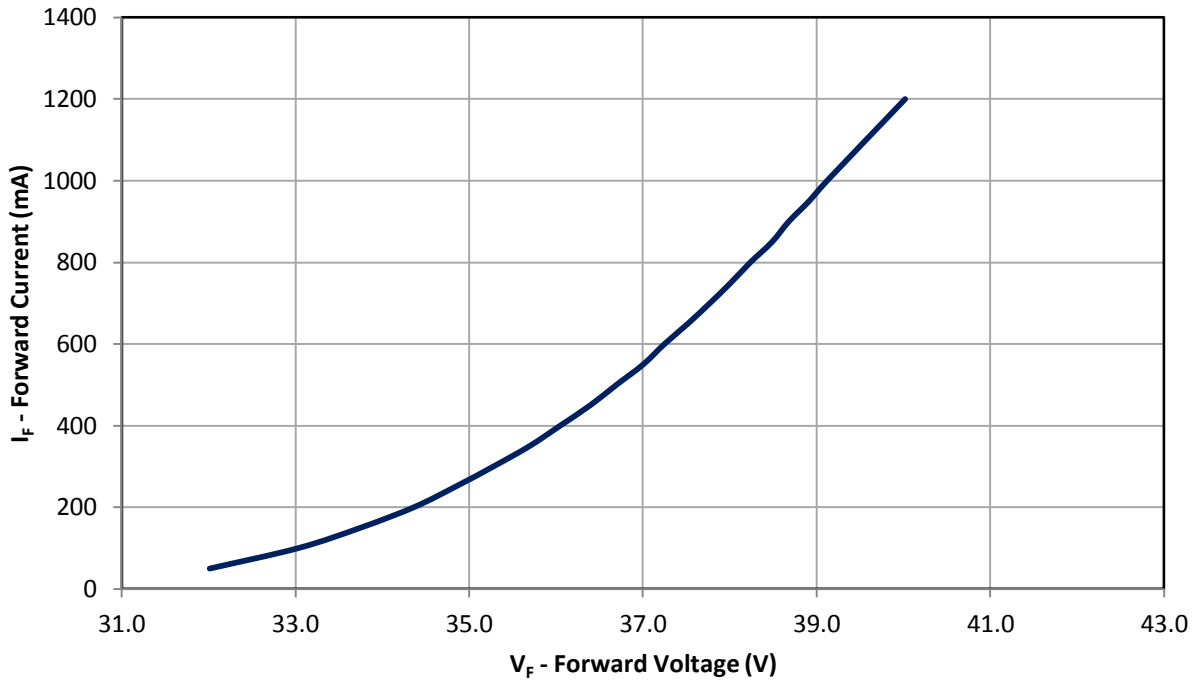

Figure 10: Typical forward current vs. forward voltage @ $T_c = 25^\circ\text{C}$.
- Maximum DC forward current (per die) is determined by the overall thermal resistance and ambient temperature. Follow the curves in Figure 10 for current derating.